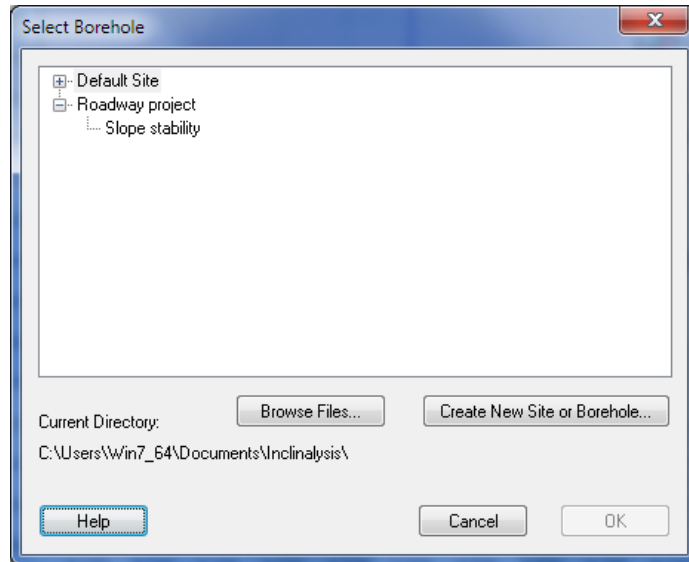

FIGURE 6-4 BOREHOLE SELECTION
- 4 You will be returned to the Borehole Selection screen (Figure 6-4). Since the new folder is empty, the Borehole Selection dialog will contain no entries.
- 5 Click on **Create New Site or Borehole** (Figure 6-4).